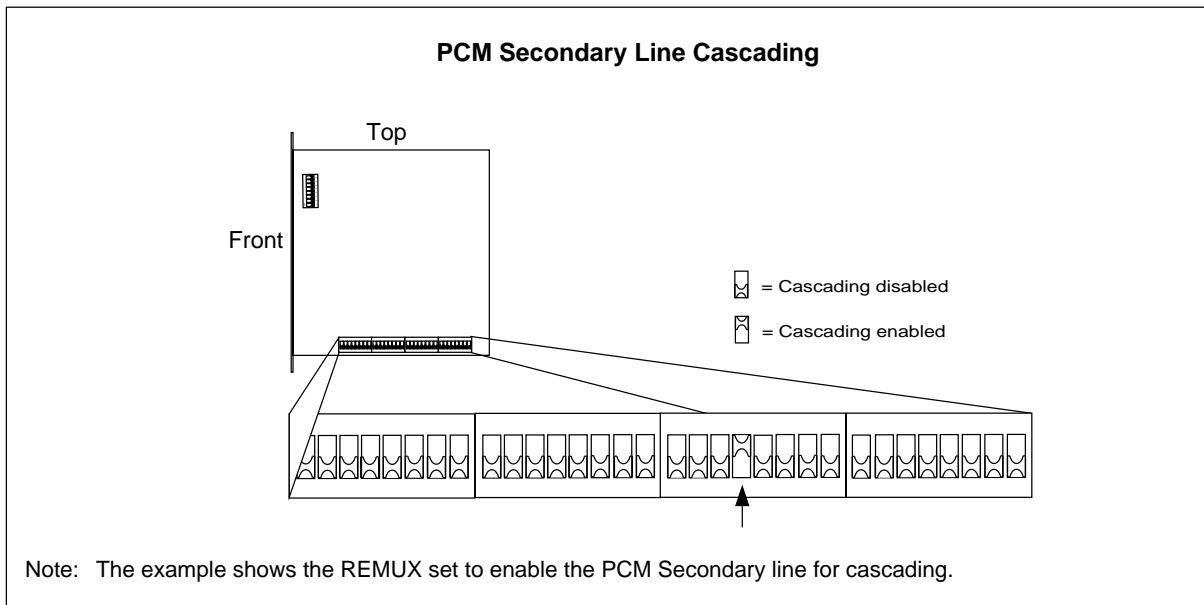

Figure 4-24. Enabling/Disabling the PCM Secondary Line for Cascading
10. Set the switch to enable or disable the PCM secondary line for cascading, as shown in Figure 4-24 on page 4-41 in accordance with the *Configuration Data* in the *Site Installation Documentation*.